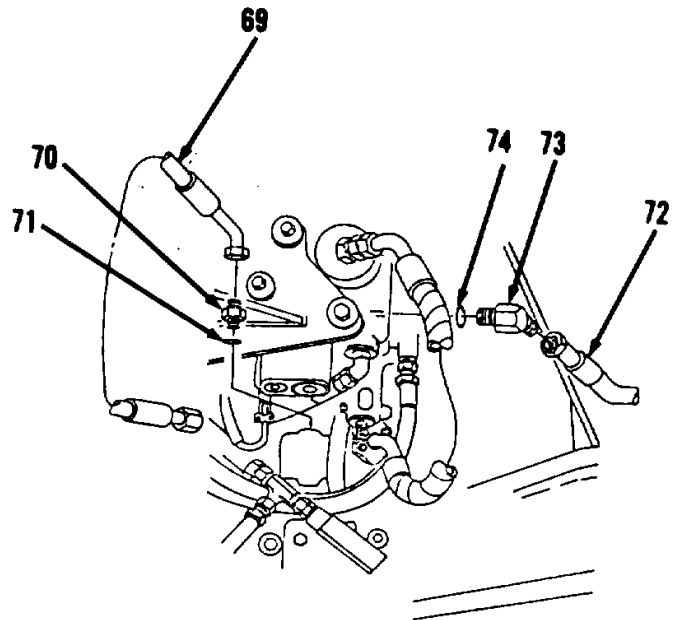

Figure 10-177.
27. Remove hose assembly (69, Figure 10-177) from hydraulic pump under center of cab.
28. Remove connector (70) and preformed packing (71). Discard preformed packing (71).
29. Remove hose assembly (72) from hydraulic unloading valve.
30. Remove elbow (73) and preformed packing (74). Discard preformed packing (74).
1. Install new preformed packing (74) and elbow (73, Figure 10-177).
2. Install hose assembly (72) to hydraulic unloading valve.
3. Install new preformed packing (71) and connector (70).
4. Install hose assembly (69).